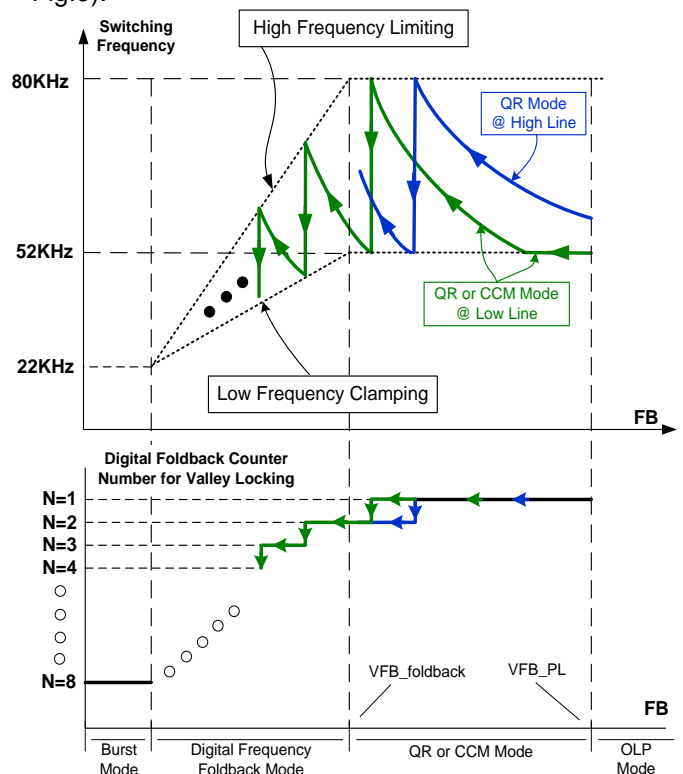
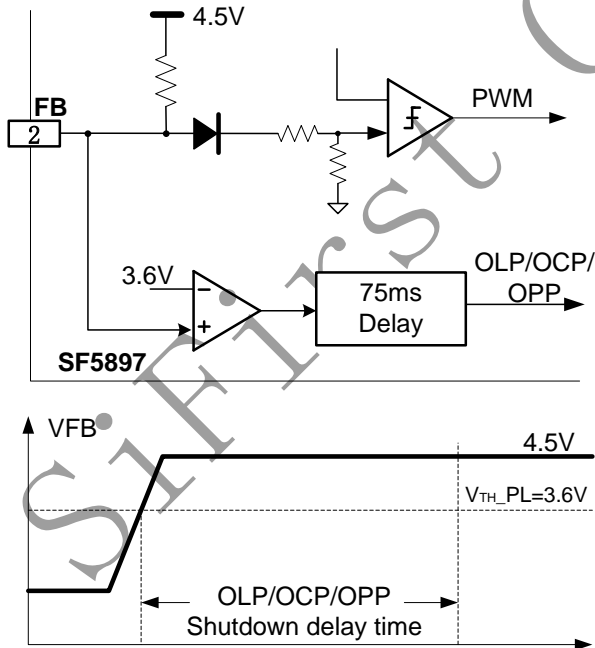
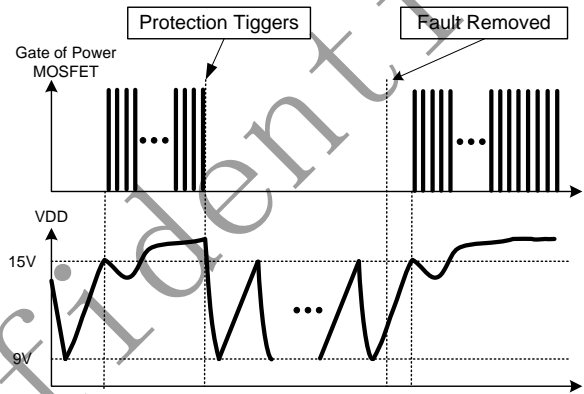

Fig.3
Fig.8
Fig.9
■ At normal or full loading conditions, the operating mode is CCM when the input is in low line range since the low clamping frequency (52KHz typical) is touched. Thus, small size transformer can be used with high power conversion efficiency. When the input is in high line input range, the IC work in QR mode with high frequency clamping (typical 80KHz), as shown in Fig.3. When FB voltage is larger than VFB_PL, the system enters into OLP mode with auto recovery protection (as illustrated in Fig.8 and Fig.9).
VFB_foldback), the IC works in “**Digital Frequency Foldback**” mode. The system frequency is limited between “High Frequency Limiting” and “Low Frequency Clamping”, as shown with the dashed line in Fig.3. In “**Digital Frequency Foldback**” mode, the IC locks the switching valley and selects the valley according to the load changes. There is a counter in SF5897, the IC selects the valleys according to the registered counter number. In SF5897, the maximum counting number is 8.
When OLP/OCP/OPP/Open Loop occurs, a fault is detected. If this fault is present for more than 75ms (typical), the protection will be triggered, the IC will experience an auto-recovery mode protection, as shown in Fig.8. The 75ms delay time is to prevent the false trigger from the power-on and turn-off transient.
As shown in Fig.9, once a fault condition is detected, switching will stop. This will cause VDD to fall because no power is delivered from the auxiliary winding. When VDD falls to UVLO(off) (typical 9V), the protection is reset and the operating current reduces to the startup current, which causes VDD to rise, as shown in Fig.9. However, if the fault still exists, the system will experience the above mentioned process. If the fault has gone, the system resumes normal operation. In this manner, the auto restart can alternatively enable and disable the switching until the fault condition is disappeared.